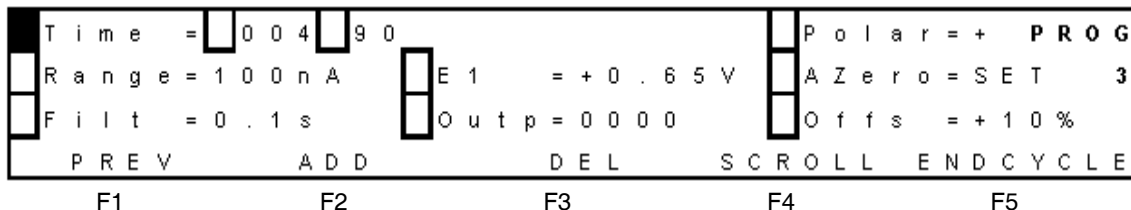

Figure 3-54 Prog Screen After Adding Line 3
- d. Select **F2 ADD**. The Prog screen appears (Figure 3-54). The number under PROG, 3, shows that this time file currently has a total of three lines. The time that this file will execute is 4.90 minutes after the start.